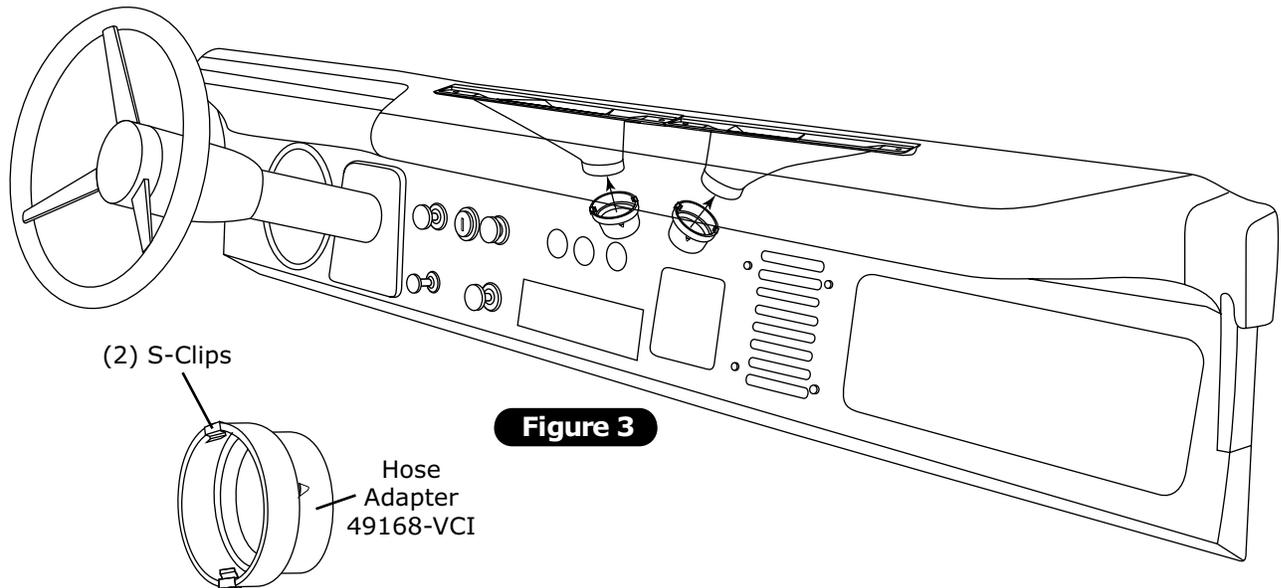

Figure 3
2. Install driver and passenger side hose adapters onto OEM defrost ducts as shown in Figure 3, below.